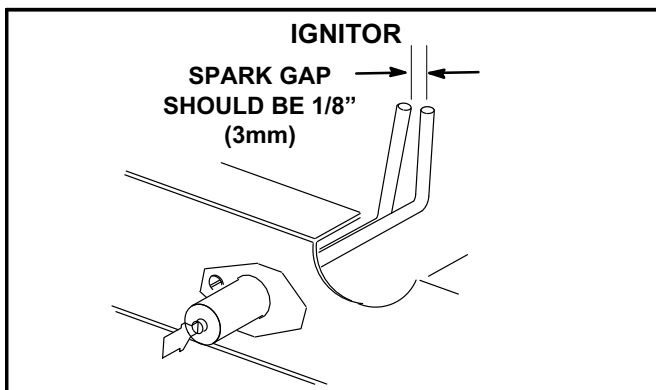

FIGURE 32
- 4- Locate the ignitor under the left burners. Check ignitor spark gap with appropriately sized twist drills or feeler gauges. See figure 32.